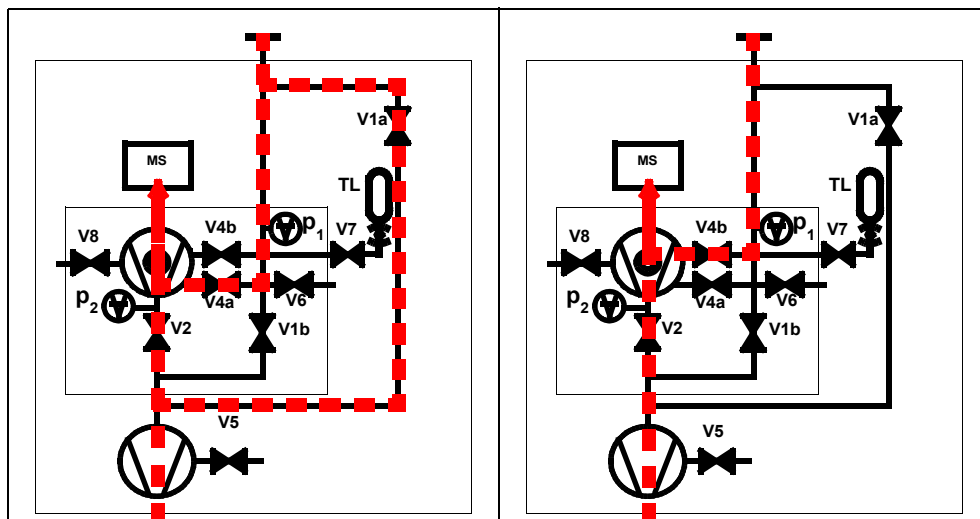

Fig. 4-7: left: FINE Mode, right: ULTRA Mode
*Tip* A special set up of the UL1000 and UL1000 Fab stops the autoranging procedure as described above. With the mode *FINE ONLY* (Please refer to Chapter 6.3 Mode) the unit will stay in FINE Mode Fig. 4-7 (left) regardless the inlet pressure. The valve V1a is closed.